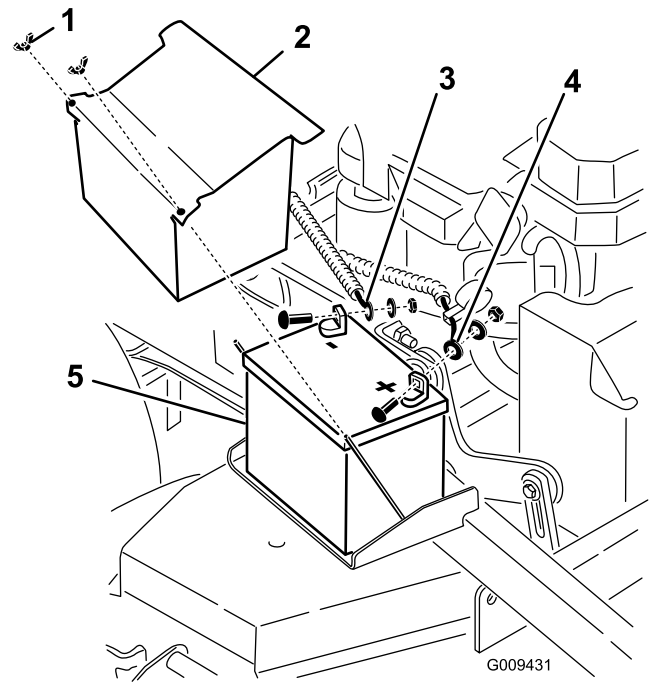

Figure 1
- A. Lift the black rubber cover on the negative cable. Disconnect the negative battery cable from the negative (-) battery terminal (Figure 1).
- B. Slide the red terminal boot off the positive (red) battery terminal. Then remove the positive (red) battery cable (Figure 1).
- C. Remove the battery hold down plate (Figure 1) and remove the battery.